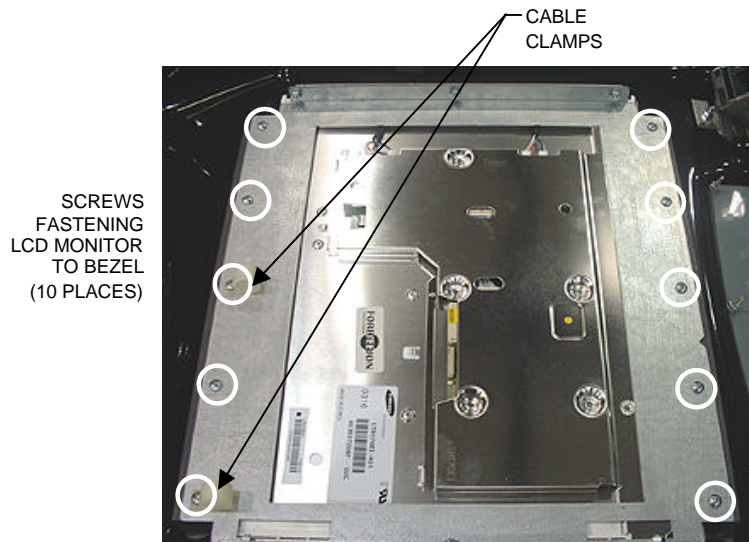
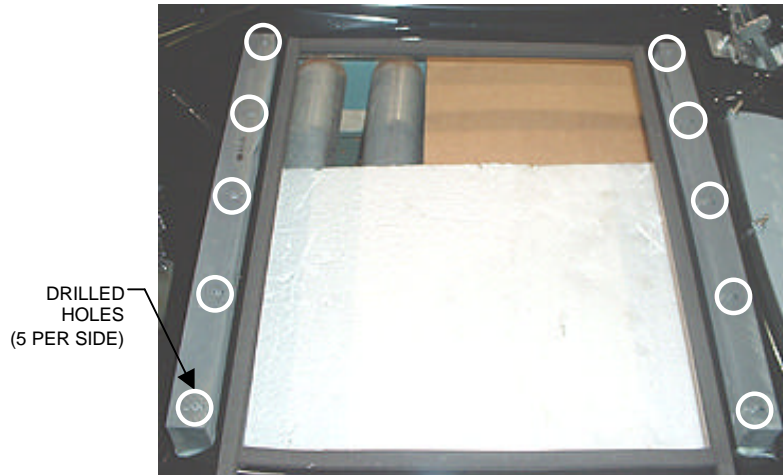

FIGURE 14 - FORCE FUSION - UNDER SIDE OF MONITOR
FIGURE 15 - FORCE FUSION - PLASTIC MOUNTING PIECES ON BEZEL
6. Place the bezel assembly upside-down on a flat surface and remove the 10 screws fastening the LCD monitor to the bezel (remember which 2 screws also fasten cable clamps), then remove the monitor from the bezel. See Figure 14.
9. Place the new LCD monitor in the bezel (make sure it is not upside-down), lining up the screw holes on the face of the mounting frame with the larger, drilled holes on the plastic mounting pieces (see Figure 15), and fasten it with the 10 screws. Also replace the cable clamps in the appropriate screw holes (See Figure 14).